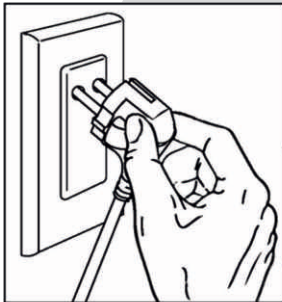

figure 1
1. Plug-in the sander's AC power cord to the power source (220VAC output). The warning “ beep ” sounds would be occurred after the plug is securely plug-in to the power source and the LED indicator shows “ Solid Red ” color at the moment.- see figure 1.